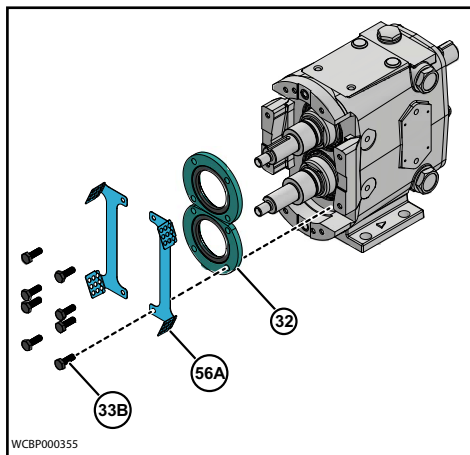

Figure 43 - Remove Seal Guard and Bearing Retainers
NOTE: The Figure 43 is shown for reference only. This step applies only to rectangular flange bodies.
4. Remove the front bearing retainer screws (33B) and pull off the Seal Guard-Vertical (56A) and bearing retainers (32) (Figure 43). If a retainer is stuck, leave it in place; it will press out when the shaft is removed.